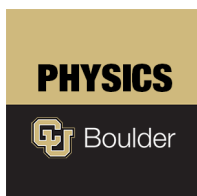

Figure 1: Mounting assemblies for a mirror (left) and a lens (right).
2. Each person in your group is responsible for assembling a mounted lens or mirror as shown in Figure 1. In the end, you will need at least 2 mirrors to complete the next task. It's very important that you **do not handle optical components** (lenses, mirrors, polarizers, wave plates, beam splitters, etc.) **with your bare hands**. The oils on your skin can damage the optics and degrade the light in your experiment. Always handle these components while using **latex/nitrile gloves or finger cots**.